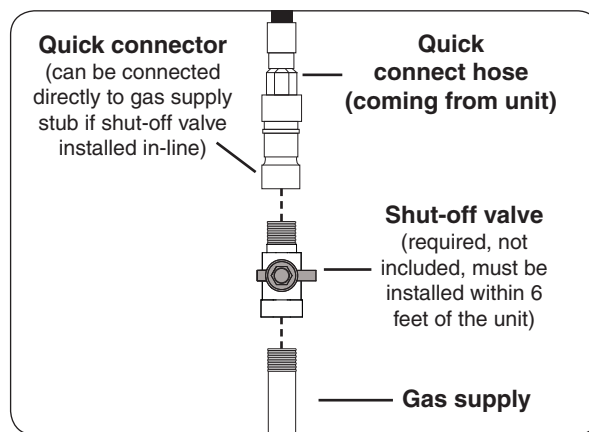

Fig. 16-2 Connecting to a gas line
2. A shut-off valve is required within 6 feet of the unit. Connect the quick connect hose to the shut-off valve OR gas supply using a pipe joint compound resistant to all gasses (see Fig. 16-2). Tighten securely.